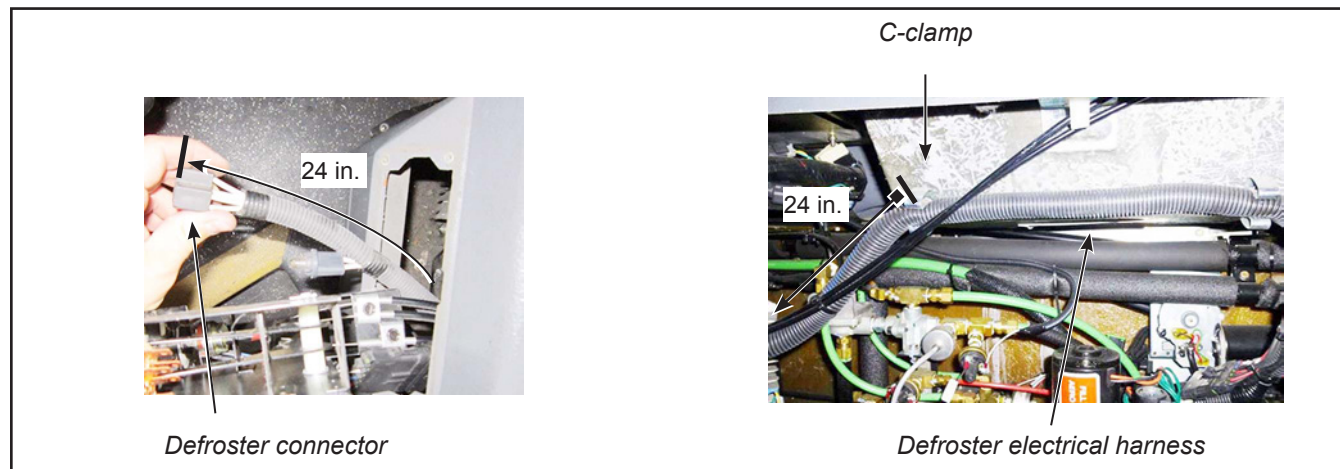

Figure 3 - Defroster Electrical Harness
1.6.1. Ensure that the defroster electrical harness is routed with 24 in. distance from the defroster connector to the first C-clip. See Figure 3.
- 2.13. Ensure that the defroster electrical harness is routed with 24 in. distance from the defroster connector to the first C-clip. See Figure 3.